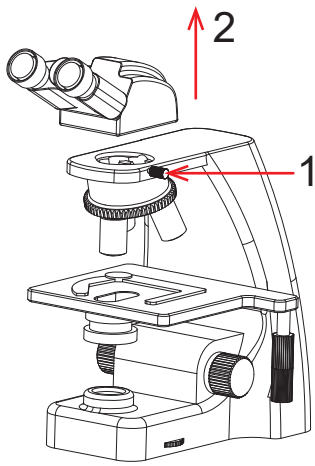

Figure 8
(1) Separate the objective end of the binocular microscope from the eyepiece end, as shown in Figure 8: